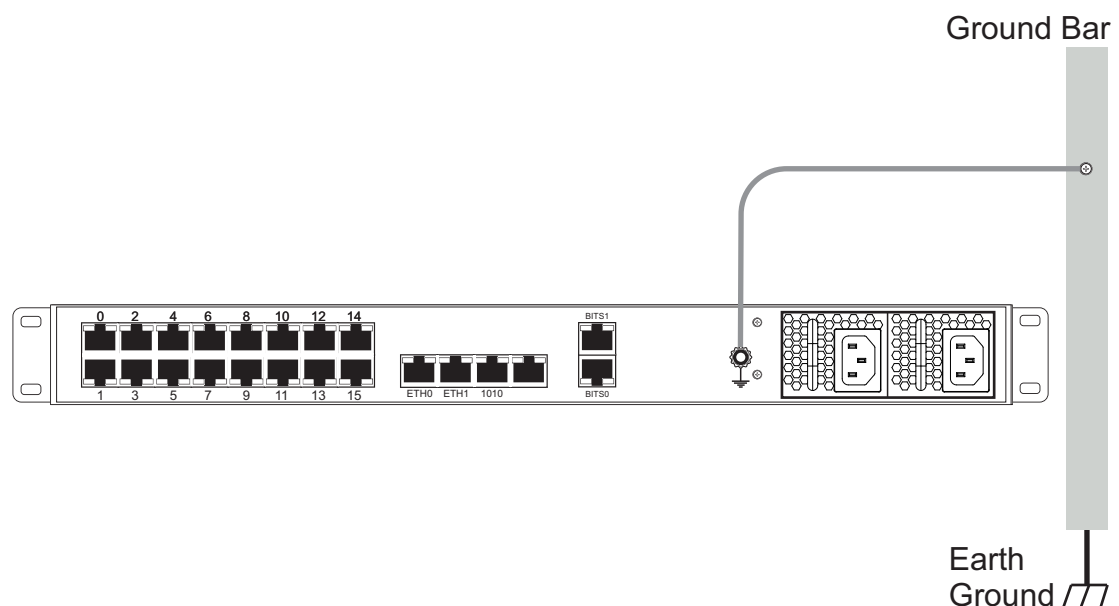

Figure 5.2 Chassis Ground Connection- 7800 TMS Later Models
As a standard safety practice, the chassis of the 7800 TMS must be properly grounded to protect against any contact with an electrical fault condition. It is recommended that the chassis be connected to earth ground. When the 7800 TMS is installed in an equipment rack, connect the ground wire between the ground lug of the unit and the equipment rack ground bar (figure 5.2 on page 44), or in the case of earlier 7800-TMS models (figure 5.2 on page 44), connect a ground wire between the power supply mounting bolt and the equipment rack ground bar.
- Do NOT daisy chain the ground between equipment. Use a ground bus bar, as show in figure 5.2 on page 44.
1. Connect one end of a ground wire to the chassis ground lug of the 7800 TMS. See figure 5.2 on page 44.